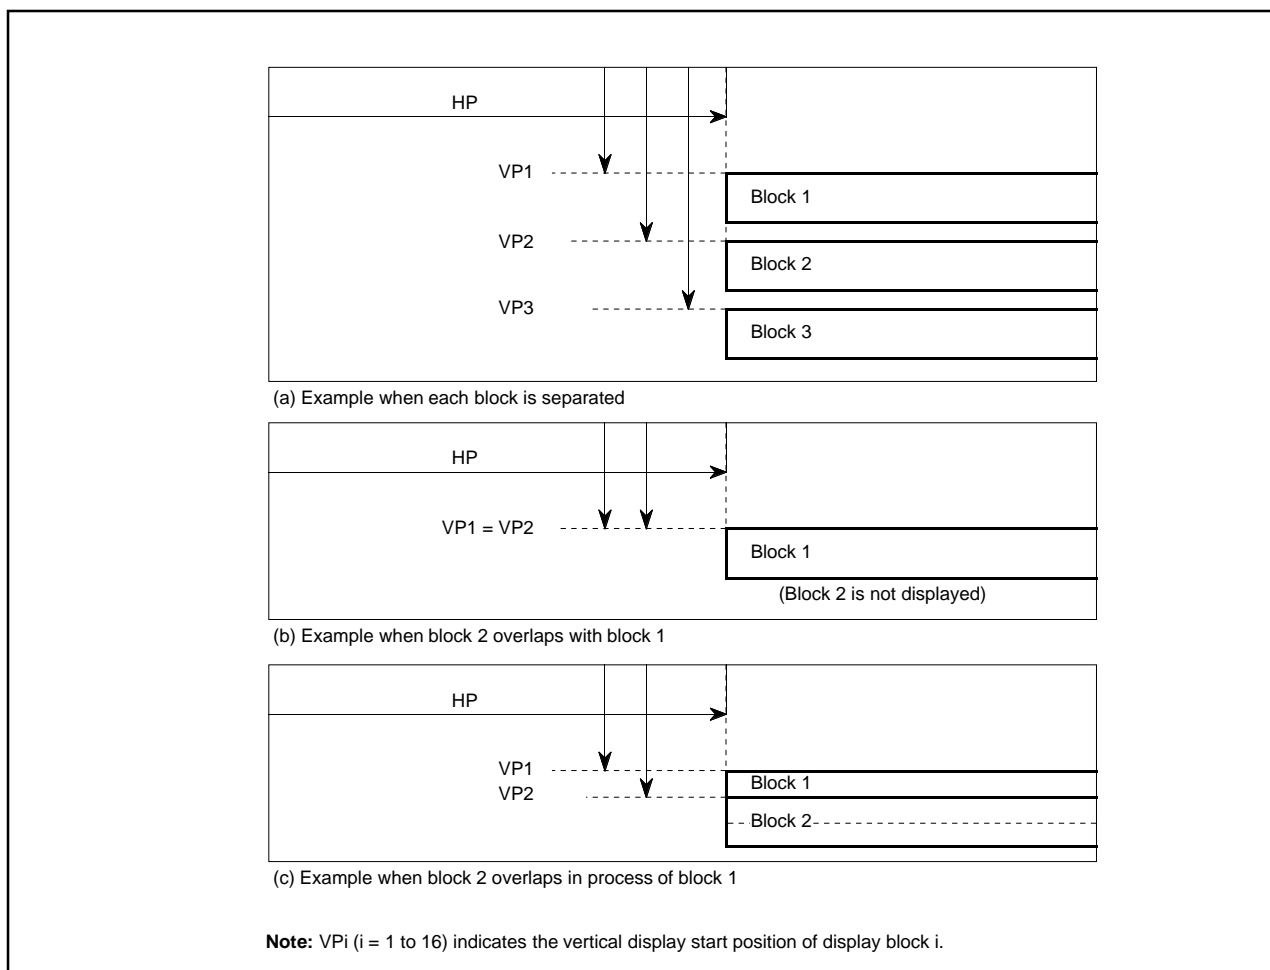

Figure 2.16.8 Display position
- When the display position is overlapped with another block in the same layer (Figure 2.16.8 (b)), a lower block number (1 to 16) is displayed on the front.
- When another block display position appears while one block is displayed in the same layer (Figure 2.16.8 (c)), the block with a larger set value as the vertical display start position is displayed. However, do not display block with the dot size of 2Tc X 2H or 3Tc X 3H during display period (*) of another block.